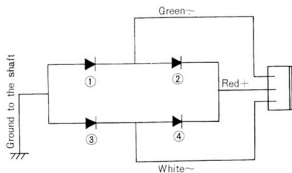

Fig. 6-2-10
2. Simplified Measurement of Silicon Diodes (See Fig. 6-2-10.)